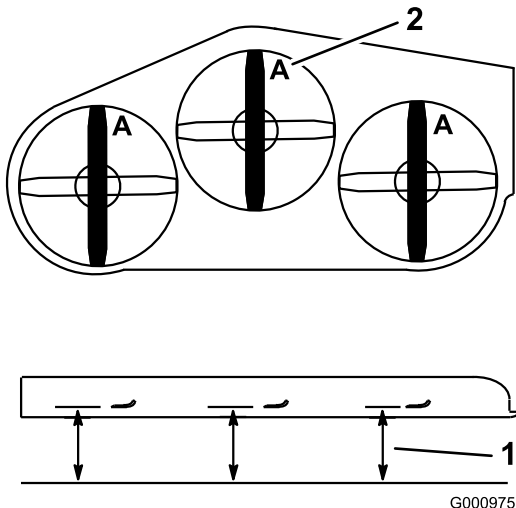

Figure 101
4. Measure from a level surface to the cutting edge, position **A**, of the blades (**Figure 101**).